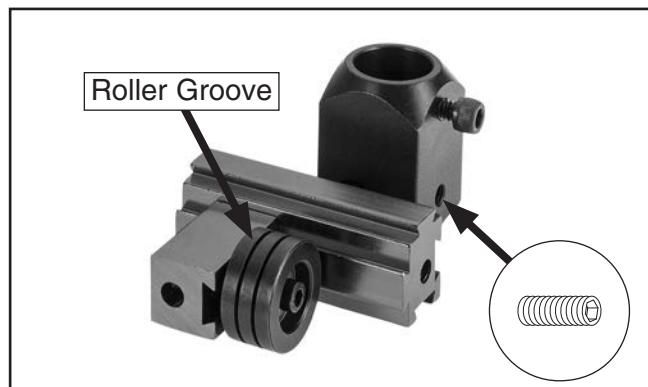

Figure 12. Support block set screw location.
7. Loosen set screw on support block shown in **Figure 12**.